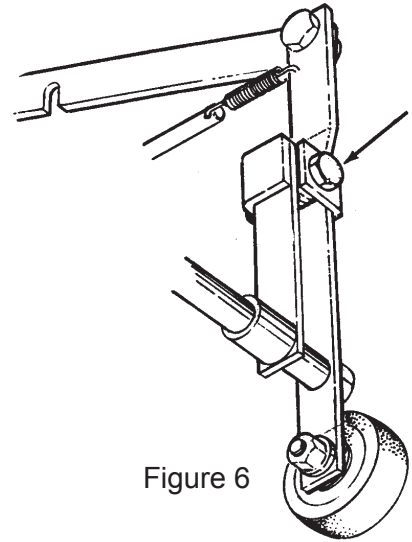

Figure 6
1. Locate the leveling screw. See Figure 6.